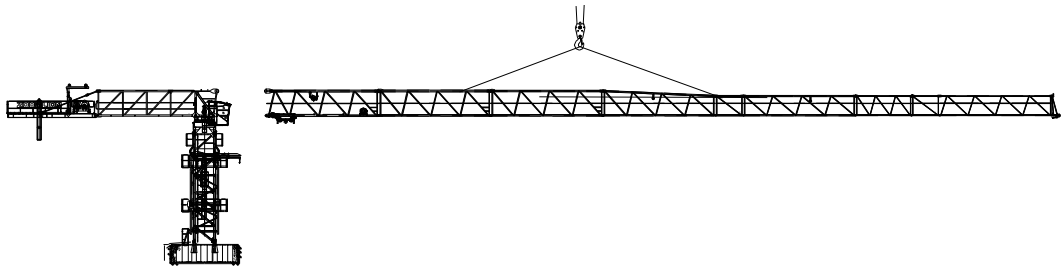

Fig. 4-35 Installing the jib assembly
- 3) Hoist the jib assembly to mounting height, see Fig. 4-35. Connect it to the counter jib by one $\Phi 100$ pin and two $\Phi 80$ pins.